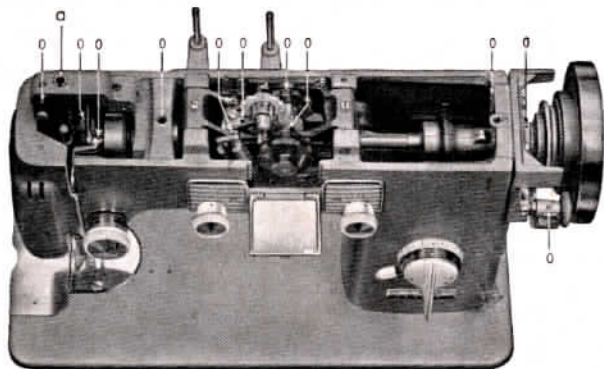

Fig. 44: Top View of Machine Head, with arm cover plate removed
2. The arm (Fig. 44) – the arm cover plate must be lifted.
2. The pressure exerted by the presser foot is too great – reduce the pressure by adjusting the pressure regulating screw *a* (Fig. 44).